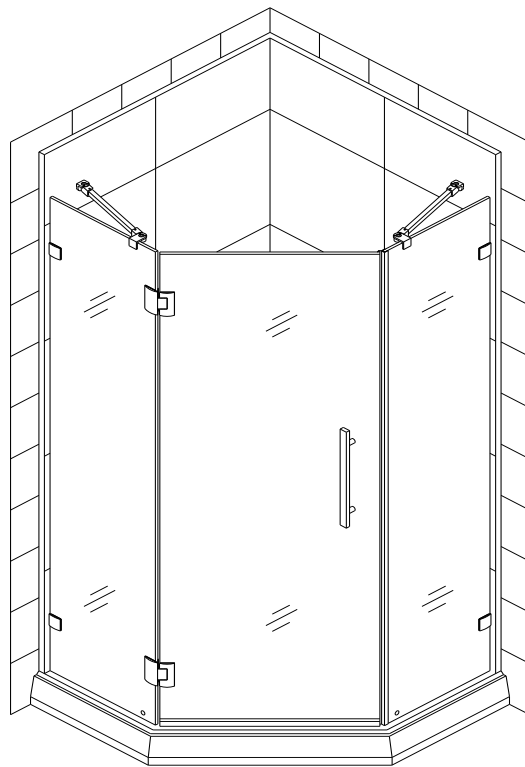

Fig. 8
10. Mount the **Handle (06)** onto the door. See fig. 8 for details.